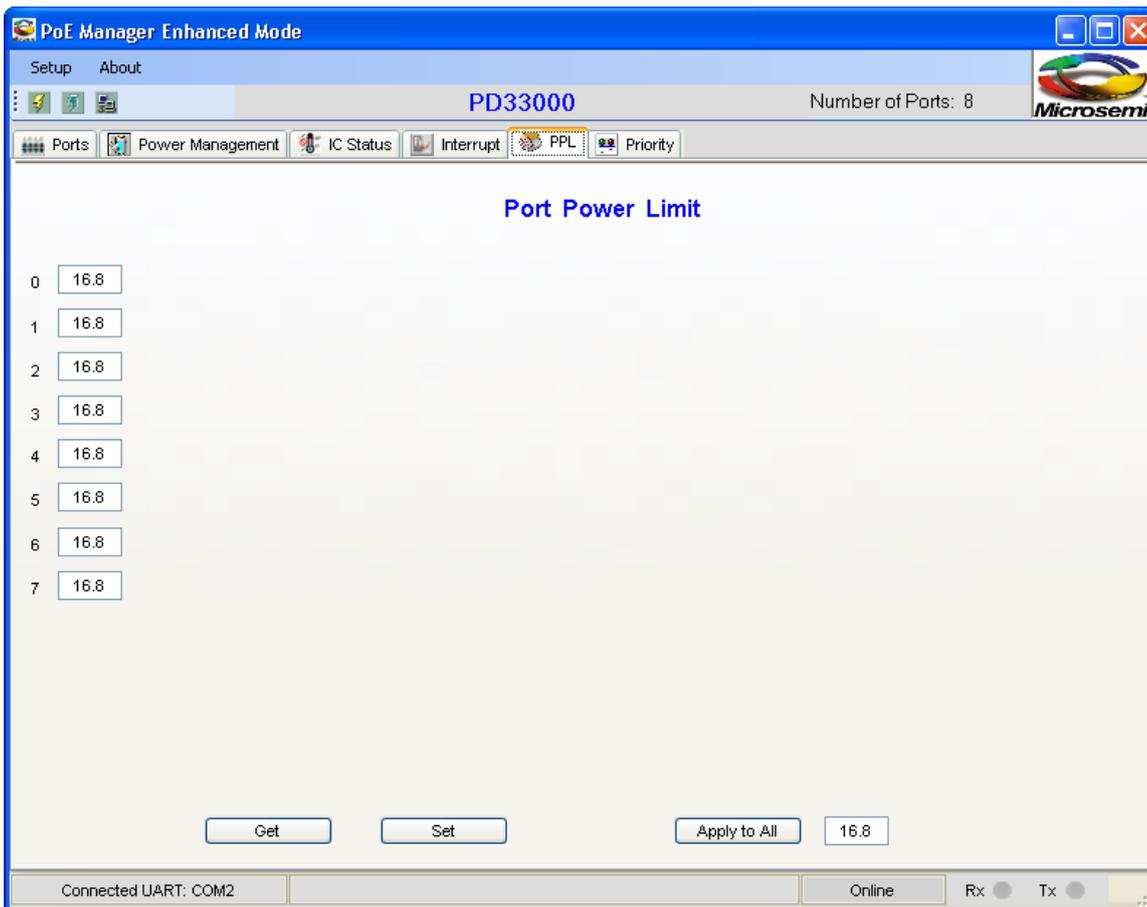

Figure 6-5: PoE Manager Enhanced Mode Window, PPL Tab (PoE+)
- On the PoE Manager Enhanced Mode window I, click the **PPL tab**. The following screen appears (Figure 6-5):